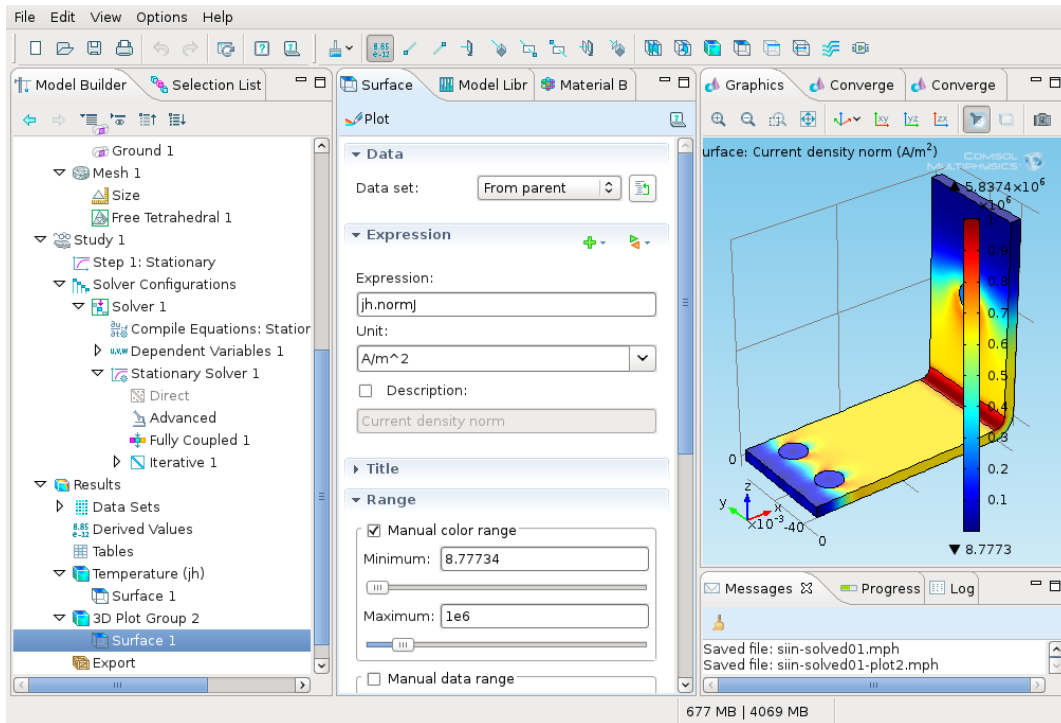

Figure 39: Current density plot.
- 8 In order to visualize the current density in the busbar generate a surface plot: **Model Builder** → **Results: right button** → **3D Plot Group**. **3D Plot Group 2: right button** → **Surface** (Fig. 39).